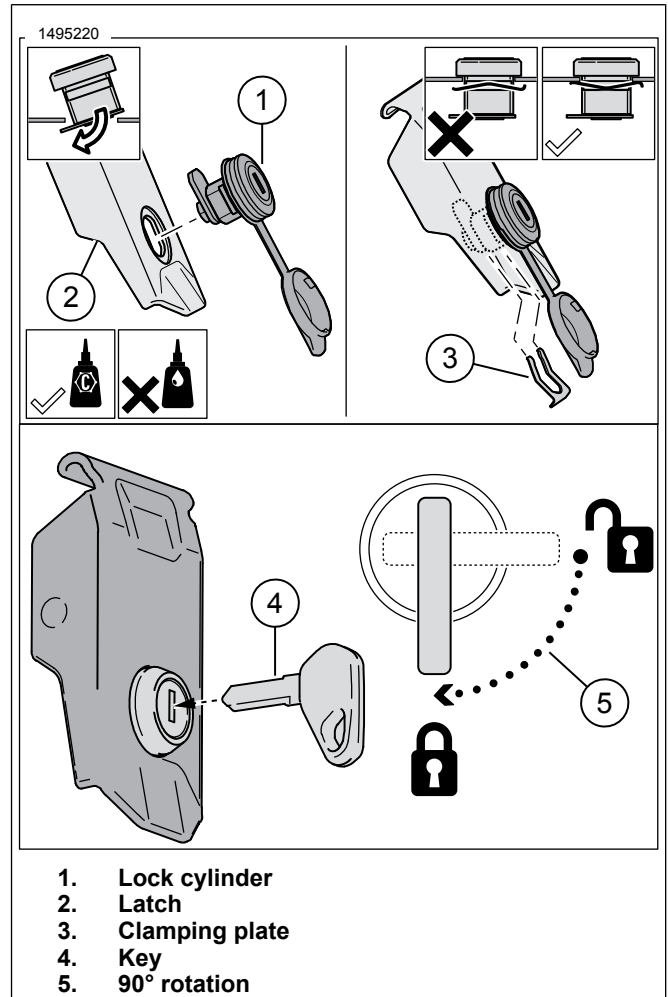

Figure 3. Lock Cylinder Insertion
- *Figure 3 Make sure lock cylinder tab points towards latch.*
1. Figure 3 Insert lock cylinders (1) into latches (2).
2. Secure lock cylinders with clamping plates (3).
3. Insert keys (4) into lock cylinders.